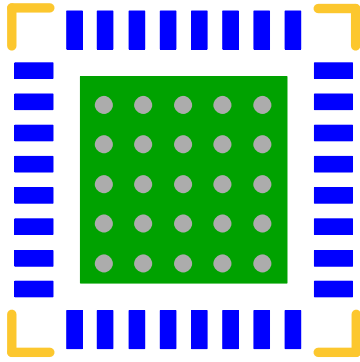

FIGURE 67. RECOMMENDED LAYOUT PATTERN FOR VIAS IN THE IC BOTTOM PAD
6. Place multiple vias under the bottom pad of the IC. The bottom pad should be connected to the ground copper plane with as large an area as possible in multiple layers to effectively reduce the thermal impedance. Figure 67 shows the layout example for vias in the IC bottom pad.